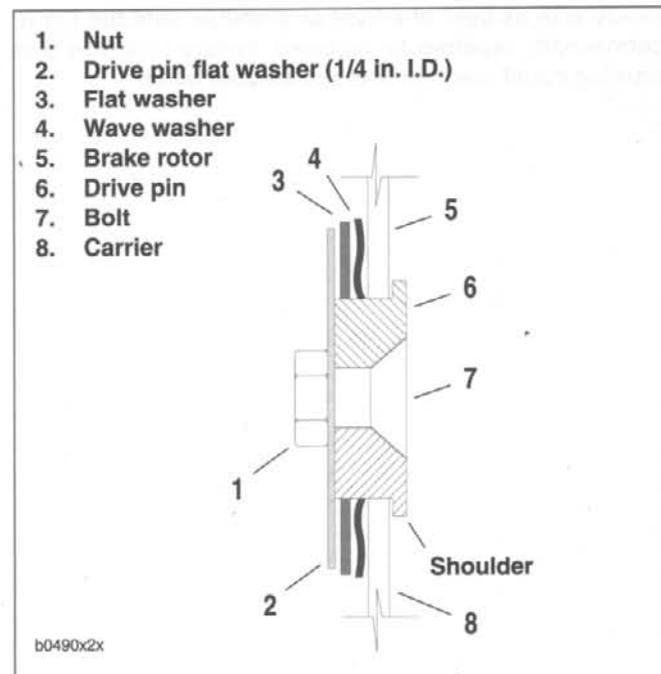

Figure 2-6. Rotor to Carrier Fastener
3. To detach brake rotor (18) from front brake carrier (16), disassemble the six brake drive pins (20).
- a. See Figure 2-6. Remove nut (1) and drive pin flat washer (2).
- b. Remove flat washer (3) and wave washer (4). Discard wave washer. Inspect flat washer for damage and discard if necessary.
- b. Apply LOCTITE THREADLOCKER 272 (red) to each of the five screws (17).
- c. Install carrier (16) on wheel hub using screws. Tighten to 20-22 ft-lbs (27.1-29.8 Nm).
2. Attach front brake rotor (18) to carrier. Sweep of slots in rotor must be in the same direction as slots in carrier.
- a. See Figure 2-6. Place drive pin (6) between rotor and carrier. Shoulder on drive pin faces away from wheel hub.
- b. Insert bolt (7) through drive pin (6).
- c. Install **new** wave washer (4) on back side of rotor.
- d. Install flat washer (3).
- e. Install drive pin flat washer (2).